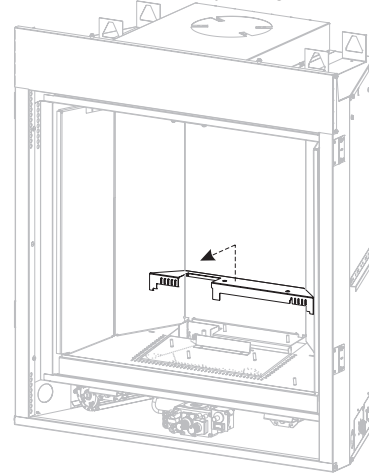

Figure 4
4. Remove the modern cover by lifting off. See Figure 4.
16. Replace modern cover removed in step 4. **See Figure 4.**